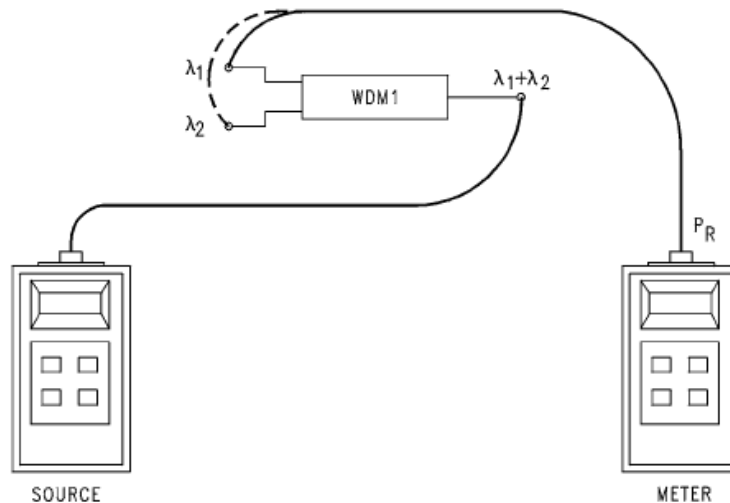

fig. 4.26
- Connect a fiber from the Source to the common port  $\lambda 1 + \lambda 2$  of the WDM (fig.4.26).
- Connect a fiber from the Source to the common port  $\lambda_1 + \lambda_2$  of the WDM (fig. 4.26)